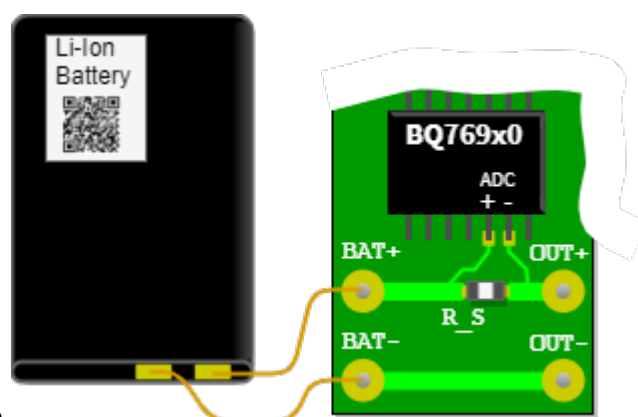

Fig. 24: Sketch of the setup
- The battery monitor BQ769x0 measures the charge and discharge currents of a lithium-ion battery by means of the voltage across a measuring resistor (shunt). In figure 24 the analog-to-digital converter (ADC) of this chip is connected to the shunt R_S via the circuit board. Through the shunt the discharge current flows from the battery